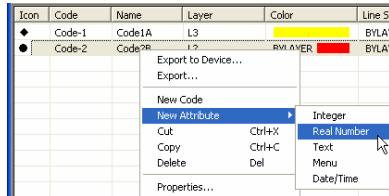

Figure 5-57. Select Attribute to Add
1. Right-click a code to add an attribute to and click **New Attribute** then select the attribute type on the pop-up menu (Figure 5-57).